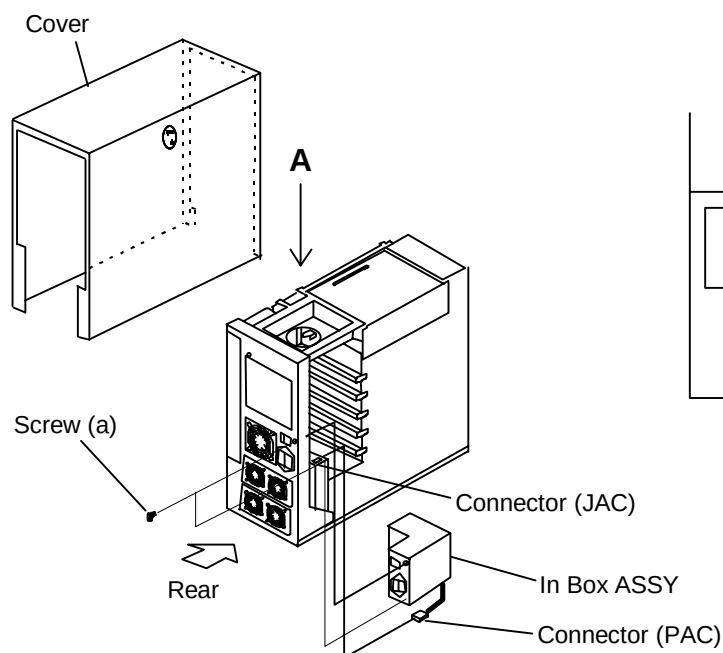
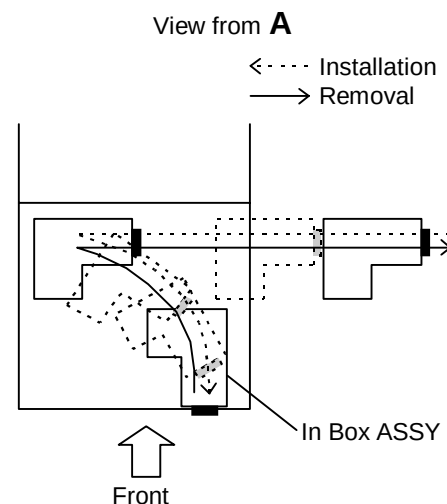

Figure 13.1 Replacing In Box ASSY
Figure 13.2 Procedure to Install/Remove In Box ASSY
13. Replacing In Box ASSY (See Figure 13.1 and Figure 13.2.)
Note : When performing the installation/removal of the In Box ASSY, move it as shown by the arrow in Figure 13.2.